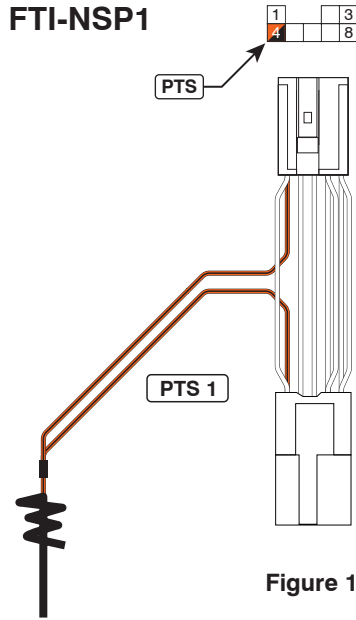

Figure 1
Step 1 of the modification (Figure 1) normal configuration of the PTS connector, with the PTS control wire at position #4 of the 8-pin connector.